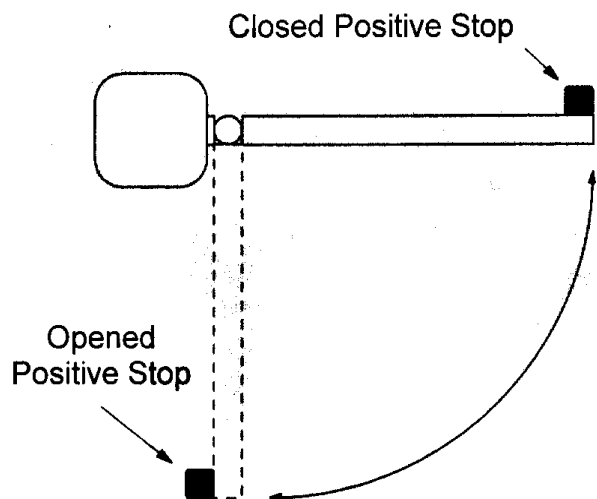

Figure 2. Positive Stops
3. Provide positive stops for the gate leaves in the fully open and fully closed positions (see Figure 2).